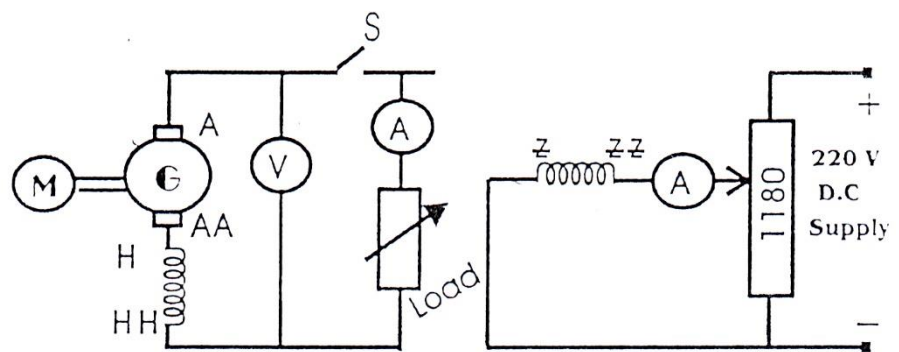

Fig. 1
Connect the circuit as in fig 1, switch (S) is open with the slide (S) of the rheostat at zero position in order to start with zero field current (I_f).
2. Switch on D.C. supply to the field winding and increase. I_f gradually in approx. equal several steps, record its value with the values of the open-circuit voltage (E) between the outside terminal of the generator which is operating in this case at N.L.